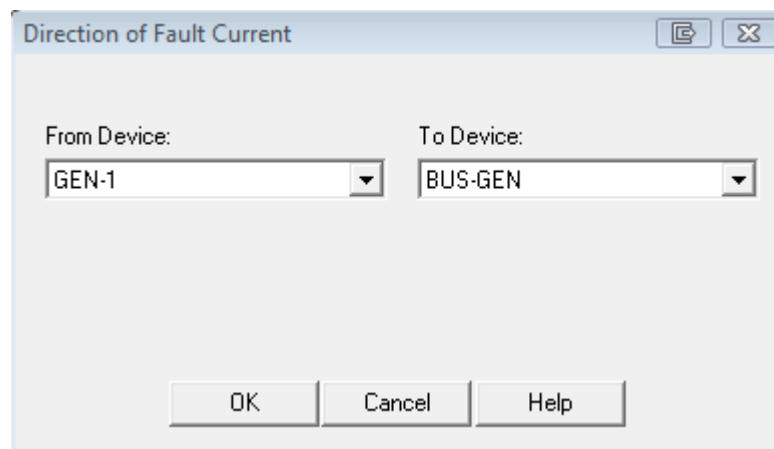

Figure 6
- The window for “Direction of Fault Current” will prompt with “From Device” and “To Device” for the selection of the components to determine the direction of fault that would cause the protective device to trip. The drop down menu under each of these fields will show the components connected to both ends of the selected device. In our case, they are GEN-1 and BUS-GEN (Figure 6).
- Select GEN-1 (generator) as the “From Device” and BUS-GEN as the “To Device” and click OK. The referenced direction of the sensed currents will be displayed with “(->)” symbol under Summation/Direction column (Figure 6 and 7).